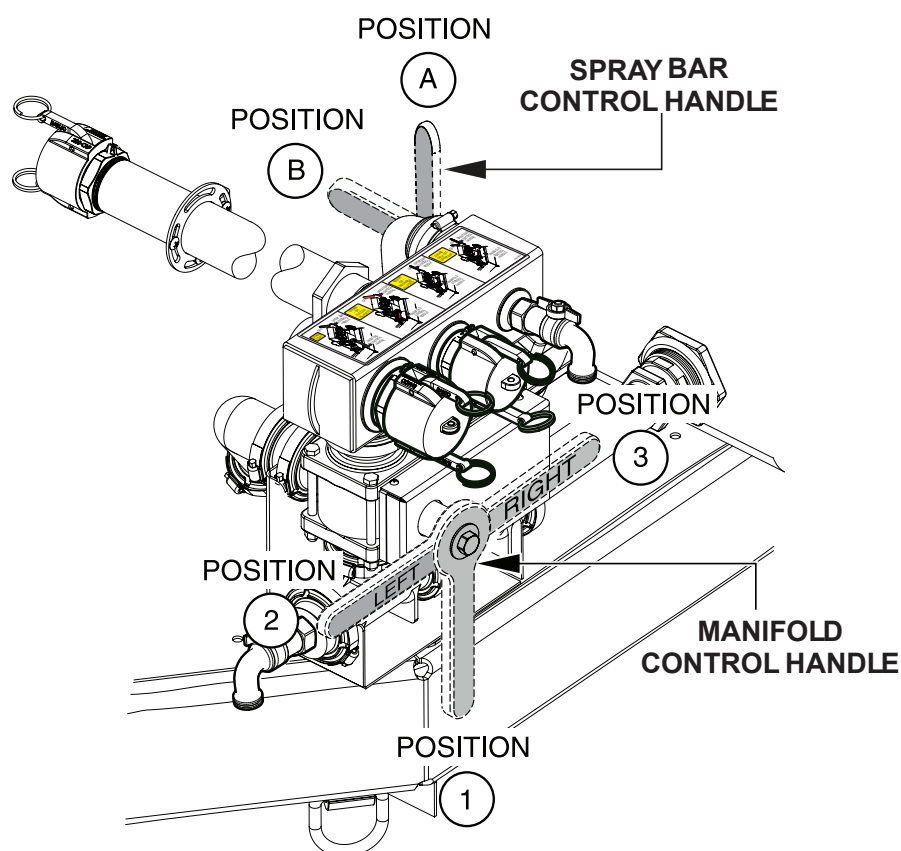

Figure 17. Pump Control Handle Positions
1. Place the manifold control handle in the **OFF** (vertical) position. See Figure 17 and Table 5.
12. To activate pumping, set the manifold and spray bar control handles as shown in Figure 17 and Table 5.
Refer to Figure 17 and Table 5 for the various operating positions of the manifold and spray bar control handles.
3. Ensure that the **spray bar control handle** is in the **OFF** position (Figure 17, Table 5).
4. Place the **manifold control handle** in the **discharge** position (Figure 17, Table 5).
3. Place the **spray bar control handle** in the **ON** position (Figure 17, Table 5).
2. Ensure that the **spray bar control handle** is in the **OFF** position (Figure 17, Table 5).